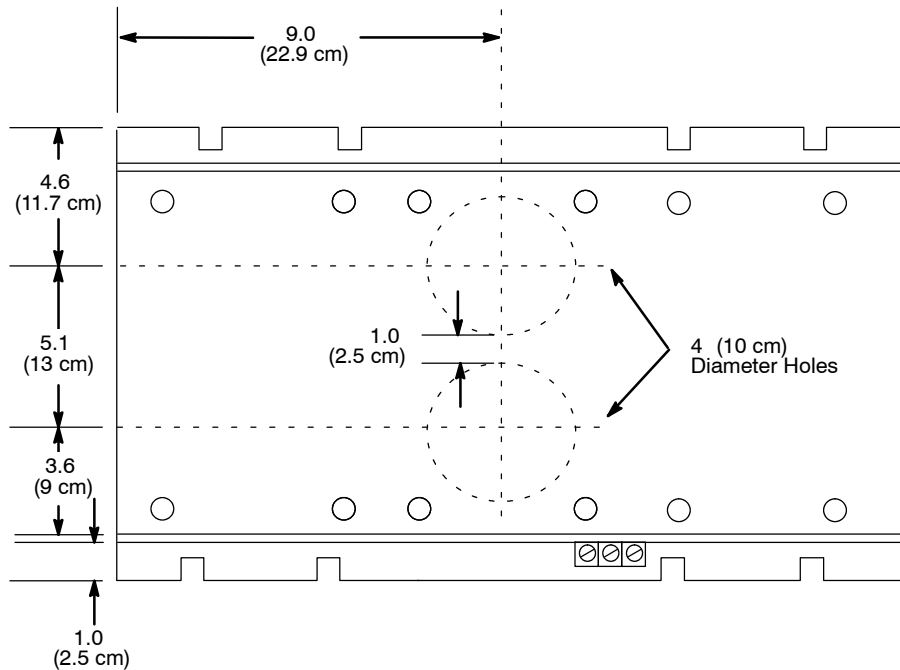

Figure 19 Dimensions to locate Optional Fan Holes on CL1060 Drive Mounting Plate
3. (Optional) Punch the two 1/2-inch diameter holes beneath the mounting positions for the cooling fans. Refer to Figure 19 for dimensions to locate hole positions.